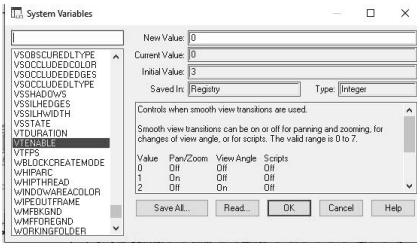

Figure 1.24 System Variables
**SYSVDLG** The System Variables editor is a wonderful tool. It gives you a concise list of each system variable, tells you where its value is stored, and describes what it does. Best of all, you can save the settings to an SVF file and restore them if you ever have to. If you do any training using computers that aren't your own, take this file with you; it will reduce the number of surprises you may encounter. (See Figure 1.24.)